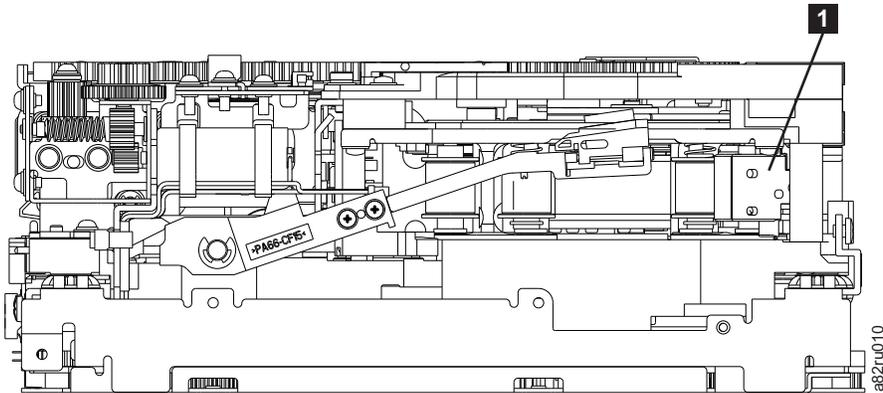

Figure A-21. Leader Block Assembly (LBA)
9. Rotate the threader motor worm gear ( **4** in Figure A-20 on page A-21) to turn the threader mechanism gear ( **6** in Figure A-20 on page A-21) counterclockwise. This action moves the LBA out of the cartridge and past the read/write head. Stop this rotation when the LBA is near the tape guide roller nearest the rear of the drive that is shown as **1** Figure A-21.